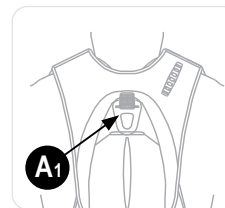

Figure 17
- Connect the karabiner of the energy absorbing lanyard to the fall arrest attachment point marked A₁ (Figure 17). A₁ is the only attachment point that will operate the MSA PRD rescue function.